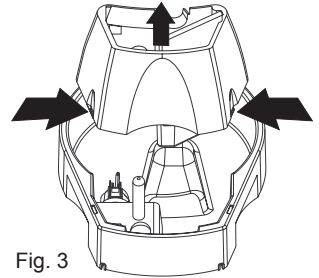

Fig. 3
3. Remove the filter housing by pressing in the tabs at the sides (Fig. 3) and lifting up.